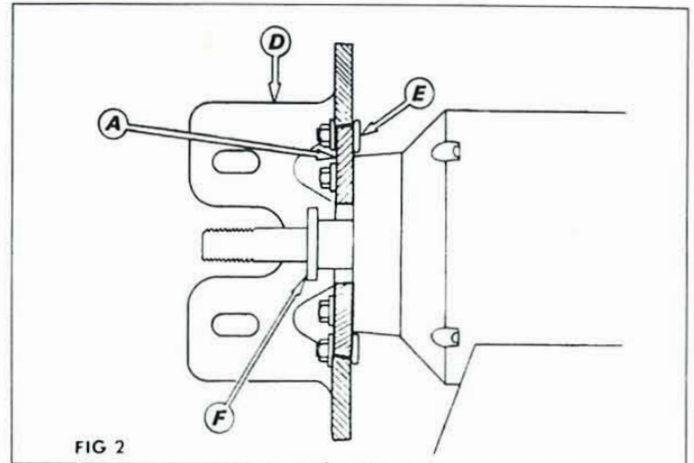

FIG 2
Fit idler arm H using 5/16" diameter bolts J and washers provided. Fit one of the heavy dished wheel flanges G provided in the kit, that suit either 1/2" diameter or 5/8" diameter shaft size and check that it clears heads of bolts B. If it fouls, use either 1/2" or 5/8" diameter washer F Fig 2 (provided in kit) behind flange. Pulley is fitted with precision nylon bush to suit 5/8" (15.9) shaft. Fit additional bush to suit 1/2" (12.7) shaft. For 3/4" (19) shaft, remove bushes with care. A bush is provided to suit 14mm shaft.